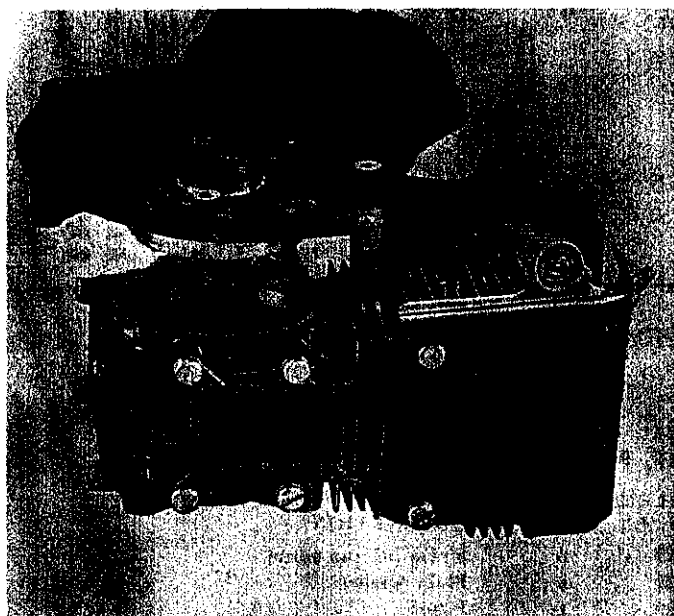

FIGURE 2. REMOVING SUPPORT PLATE
2. Remove the four screws attaching the support plate to the cylinder. See Fig. 2. Lift the support plate up and off the crankshaft as shown in Fig. 2. On governor equipped models, remove governor vane, pivot screw and linkage, before removing stator plate.